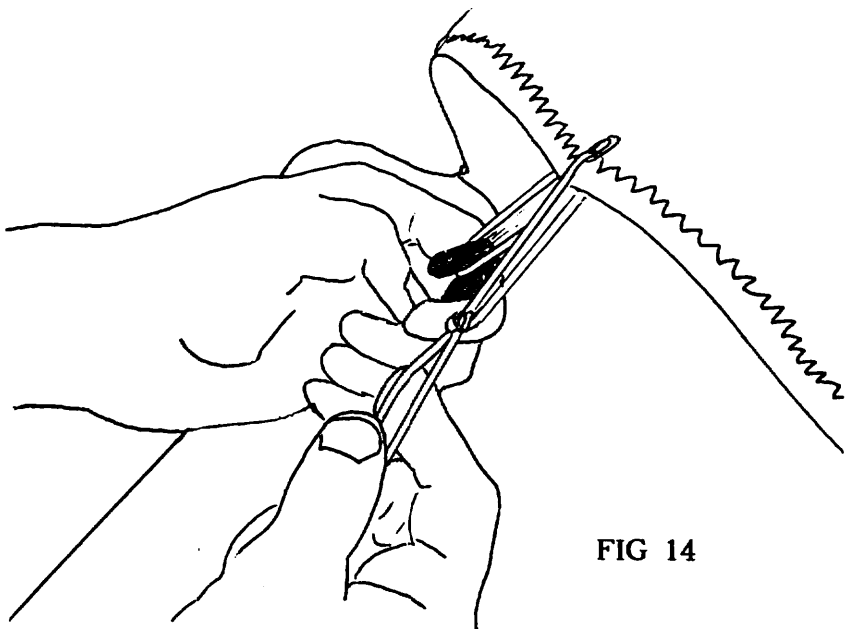

FIG 14
11) Secure the rear end of each top surface batten by first looping one loop of leech line around the notched batten end, and then attaching the second loop, using the extra loop as a handle. (Fig 14) When attaching the leech line loops at the reflex bridle battens, be sure the bridle cable is not caught underneath or wrapped around the leech line.